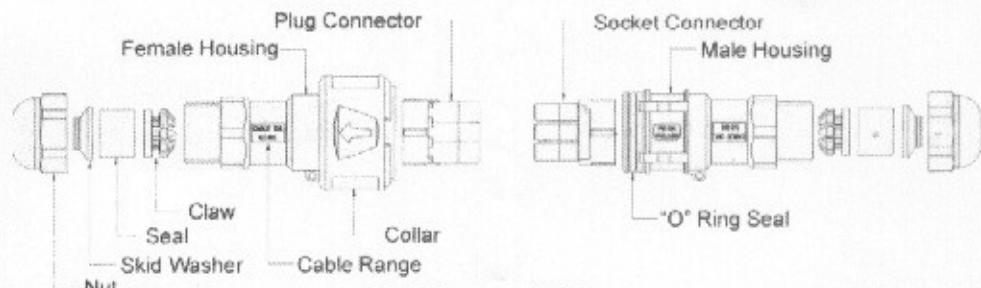

Fig.4 Component Parts
- Please ensure cable diameter used is within cable range, as marked on outer housings (see Fig.4).